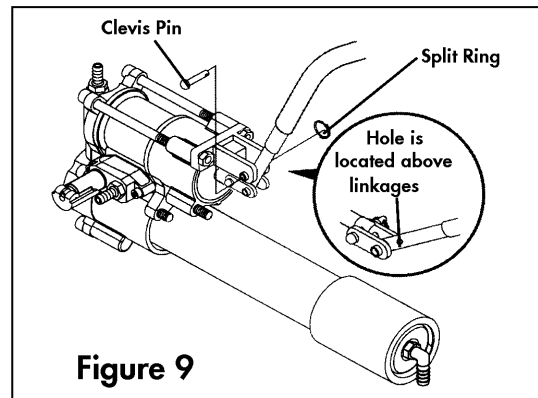

Figure 9
7. Orient the hole in the handle (located above the linkages) between the holes in the handle bracket. Insert the second clevis pin through the holes and secure with the split ring (**Figure 9**).